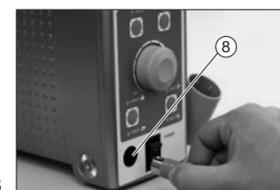

Fig. 3
Insert the motor cord plug in Output Connector⑧.(Fig.3)